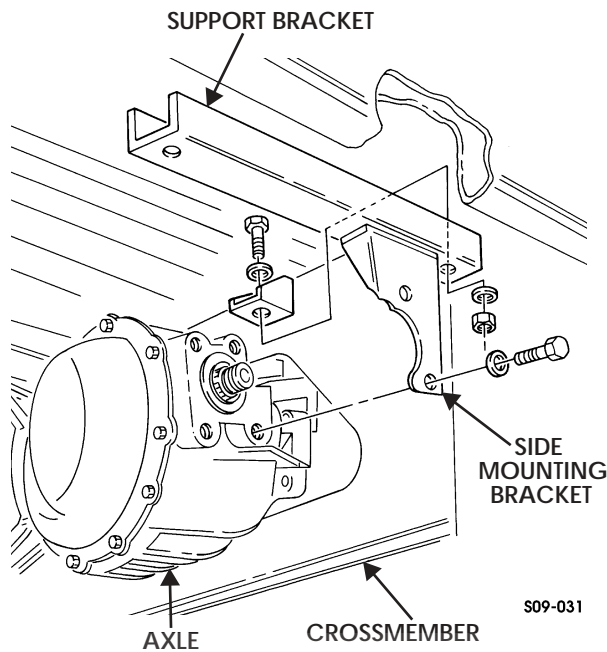

Figure 9-43: Side Mounting Bracket Removal
4. Remove two capscrews and washers securing side mounting bracket to axle (Figure 9-43).
2. Install support bracket and side mounting bracket on crossmember with two washers, capscrews, washers, and locknuts (Figure 9-43). Do not tighten capscrews.
5. Remove two nuts, washers, capscrews, and washers securing front crossmember to support bracket (Figure 9-43).
7. Secure front crossmember to support bracket with two washers, capscrews, washers, and nuts (Figure 9-43).